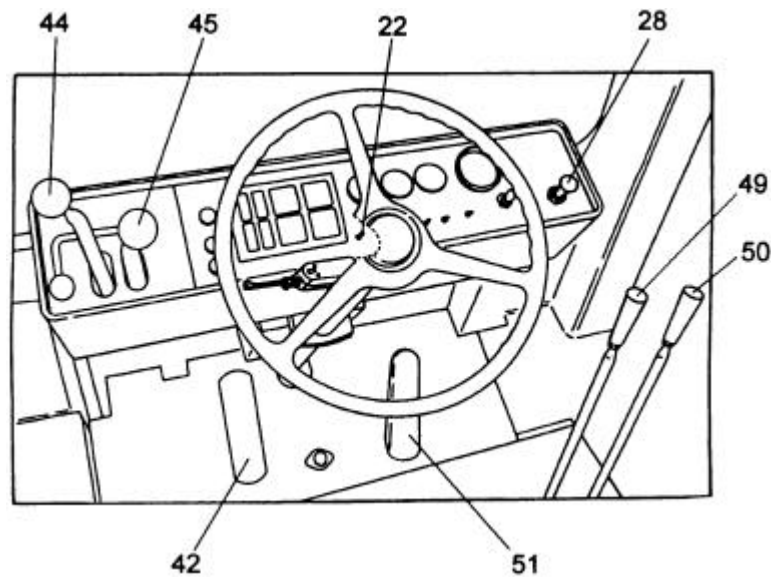

Fig. 4.22. Starting and Stopping the Machine
To start moving perform the following steps in accordance with Fig. 4.22:
4.16. STOPPING THE MACHINE (FIG. 4.22)